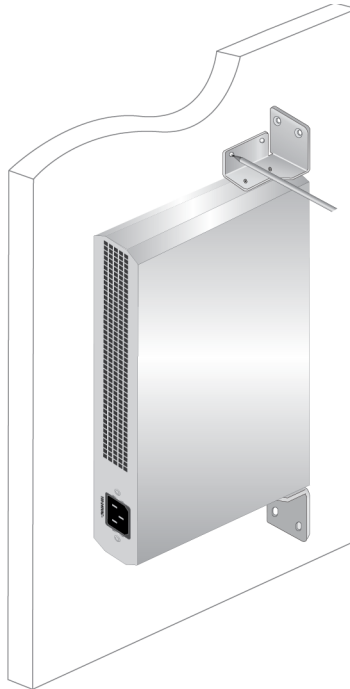

Figure 22. Marking the Screw Hole Locations
5. Have another person hold the switch with the brackets at the wall location where the switch is to be installed, while you use a pencil to mark the wall with the locations of the four holes in the brackets. See Figure 22 as an example.